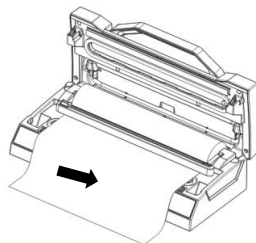

Fig.4
5. Put down the cutter rack and make sure it is on the right place of the bags, then slide the cutter from one end to the other end to cut the bag– **Fig.4**